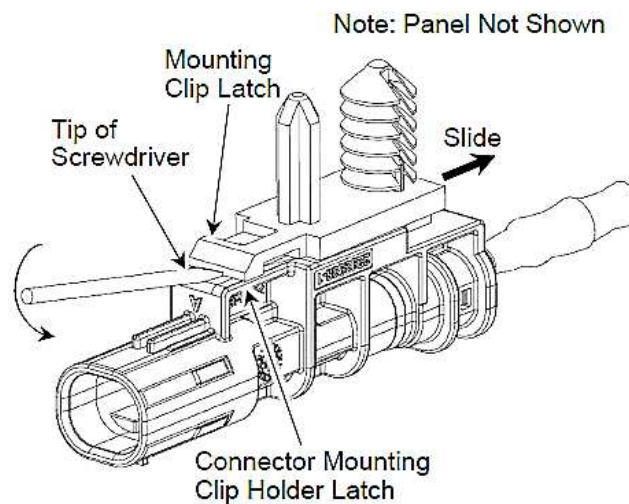

Figure 16
- i. Insert the tip of a small screwdriver between the latch of the mounting clip and the latch of the connector mounting clip holder. See Figure 16